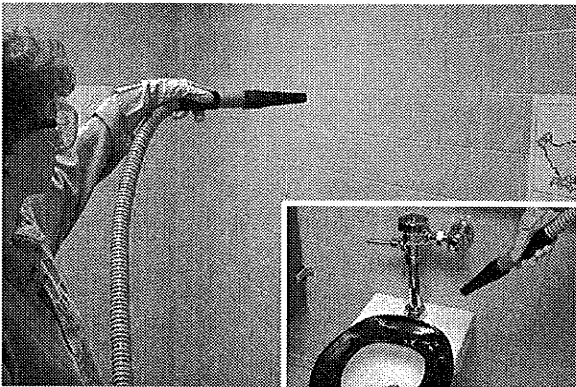

FIG. 23
4. Begin blow drying surfaces from top to bottom, pushing rinse solution to floor. When finished, shut off blower, wipe off hose and replace it on machine (Figure 23).